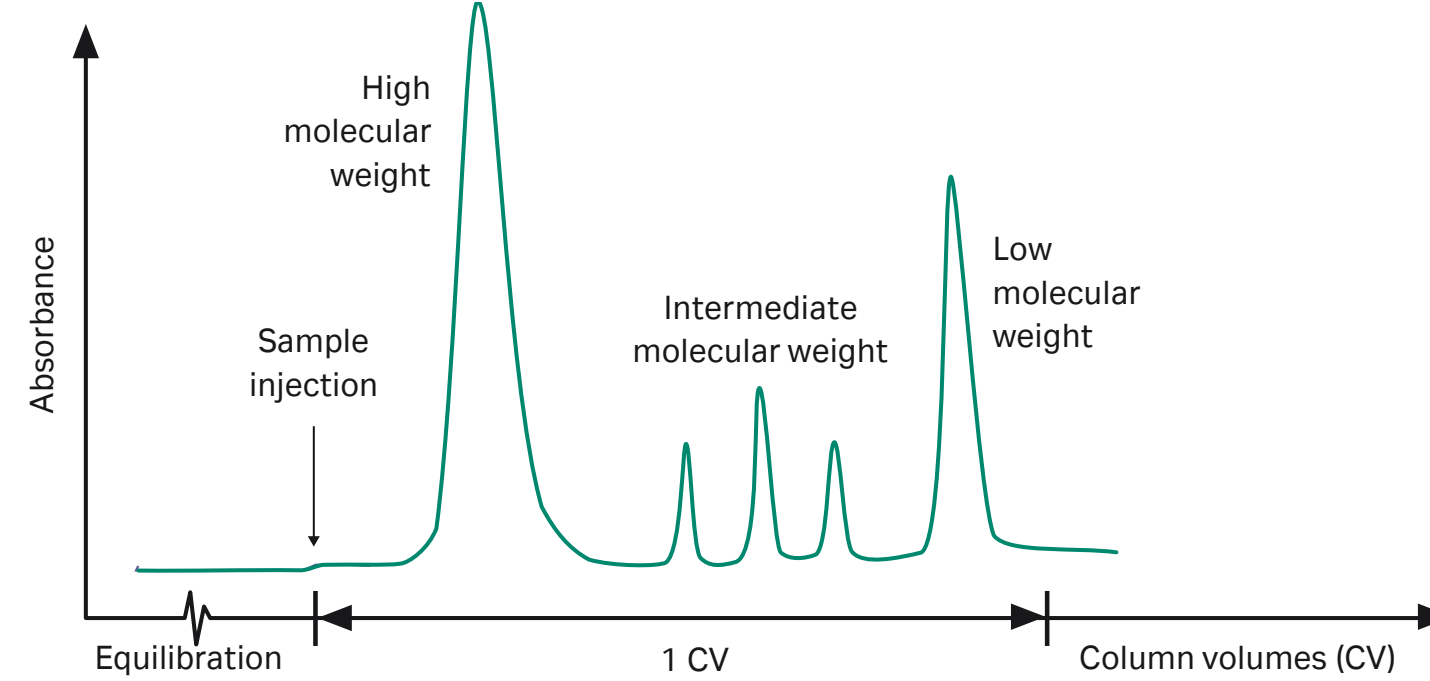

Fig 3. Typical high-resolution SEC separation.
- 2. High-resolution fractionation** of biomolecules where the components of a sample are separated according to differences in their molecular size (Fig 3). High-resolution fractionation can be used to isolate one or more components, to separate monomers from aggregates, or to perform a molecular weight distribution analysis. High-resolution SEC is most suitable for samples that originally contain few components or for samples that have been partially purified by other chromatography techniques so that most of the unwanted proteins of similar size are eliminated.